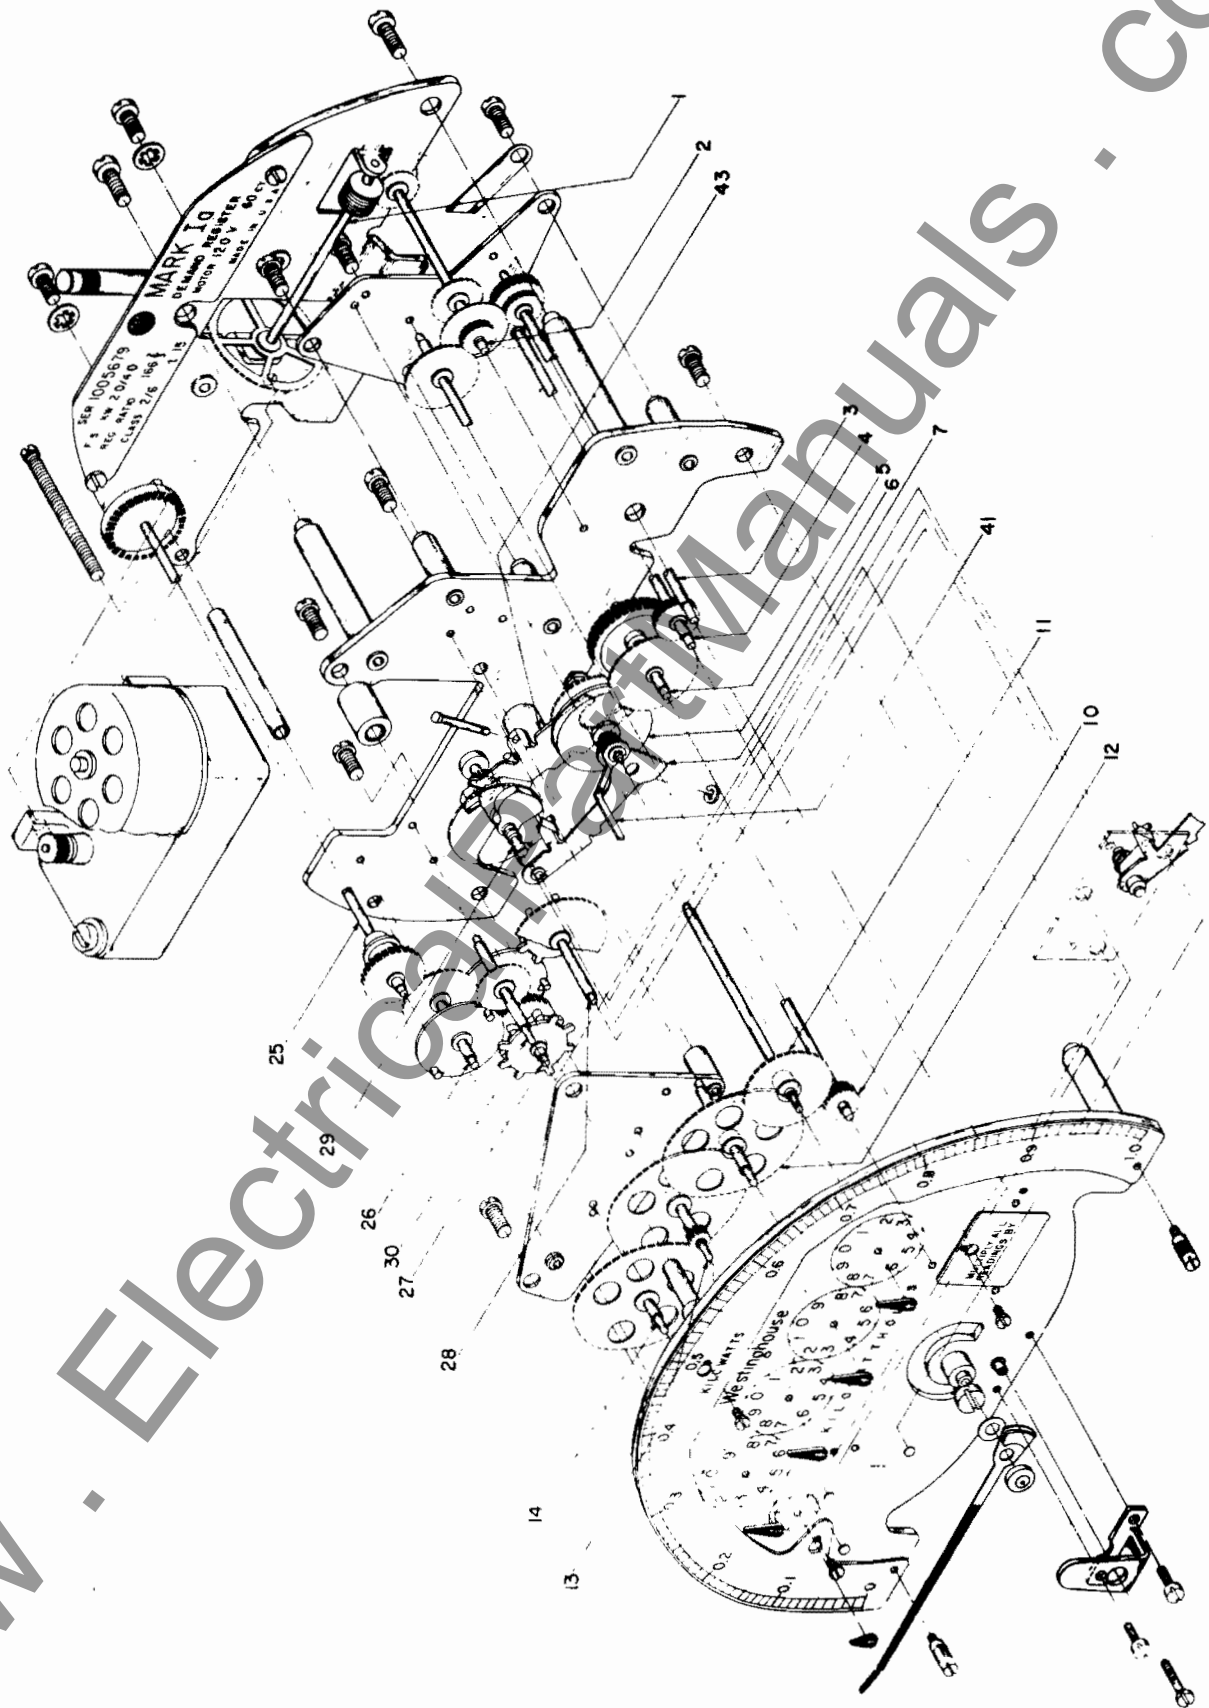

Fig. 2
The following is a description of the operating principle of the Mark Ia demand register (Fig. 2).
pinion on shafts (2) and (3) and automatically engages a different gear and pinion on these two shafts. This change in ratios corresponds with the scale in use automatically due to the contour of the scale. (Figures 2 and 3).